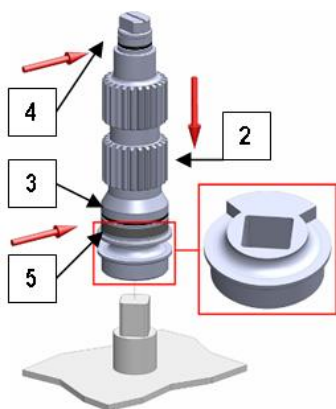

Fig.19
2. Place the pinion ( 2 ) on a support with a square of the same size of the female attachment. Make sure that the pinion is provided with lower O-ring ( 3 ), spacer ( 5 ) and upper O-ring ( 4 ). Lubricate the O-rings (see arrows fig. 19);